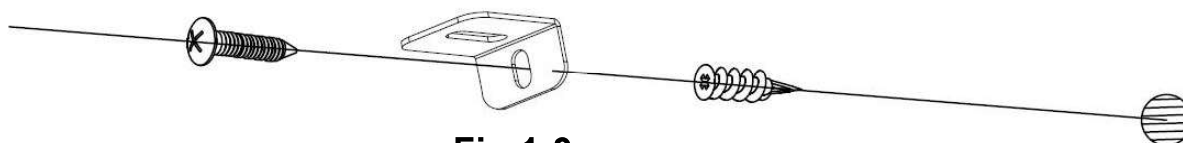

Fig 1-3
C.Install the plastic anchor **(C)** into the dry wall, then install the longer screw **(B)** (supplied) into the hole of the L-bracket into the wall anchor to secure the fireplace from coming off the wall.**(Fig 1-3)**